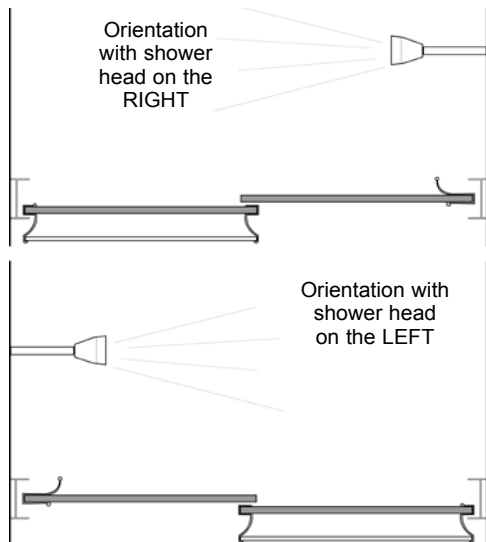

Figure 9
- E. Finally, gently slide the Inside Door Panel (#6) towards the wall with the shower head and the Outside Door Panel (#5) to the other wall to ensure that they clear one another and that the overlap of the two doors is correct, as shown in Figure 9.